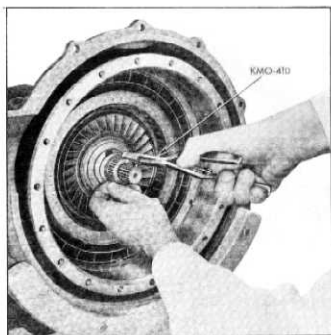

Fig. 140—Installing Converter Retaining Snap Ring
13. Install converter retaining washer and snap ring (fig. 140).